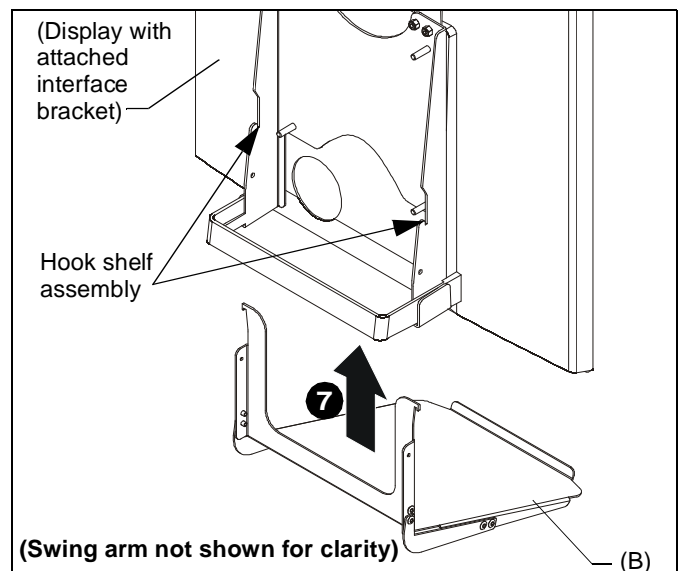

Figure 4
7. Lift shelf assembly (B) up from below display and hook onto interface bracket (A). (See Figure 4)